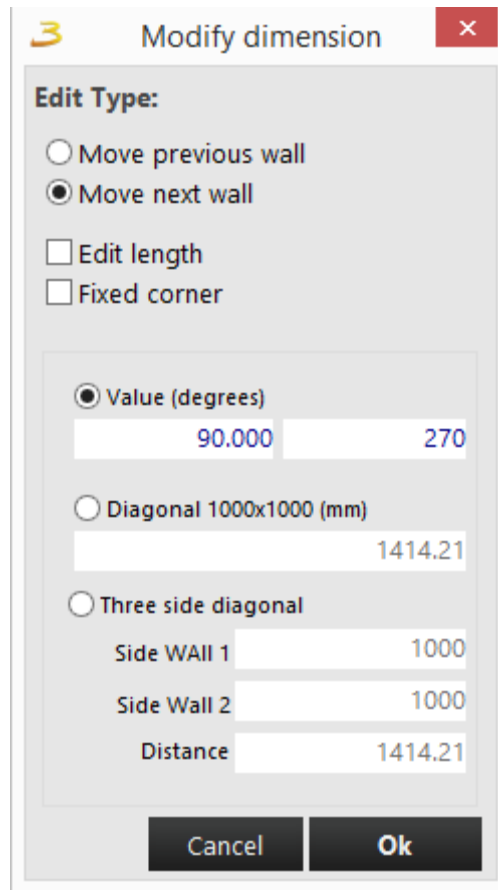

Figure 5.7
After inserting the wall, the program predisposes itself for the next wall and it shows its size by displaying the dimensions. It is also possible to change the angle between the walls and maintain their dimensions. To do this, it is necessary to place the mouse pointer over the corner when the yellow label appears, press the SPACE bar (or ENTER), figure 5.6. At this point a window will appear as shown in figure 5.7.
- ✧ Set corner: it enables to set an angle for a single wall, figure 5.7;